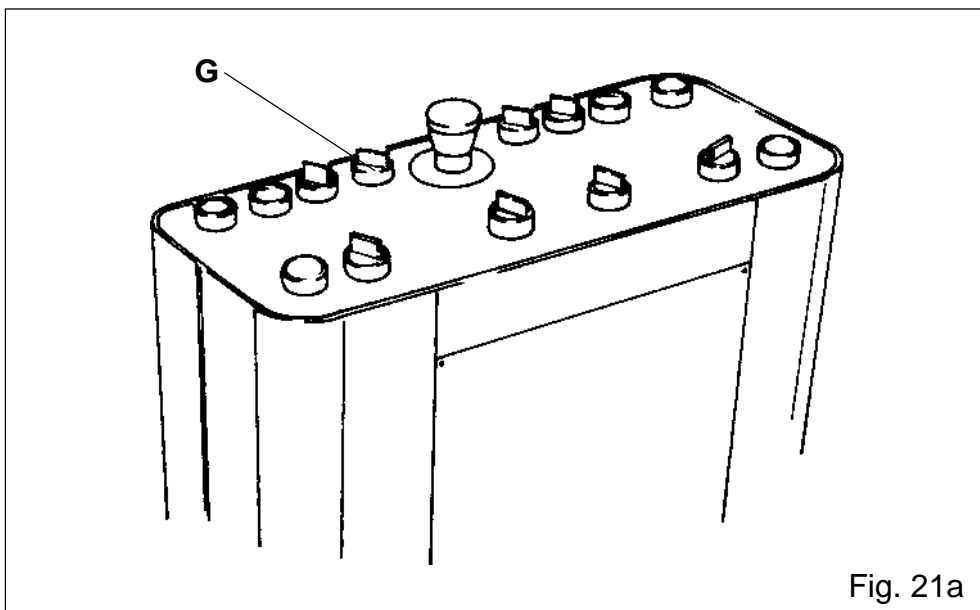

Fig. 21a
- Turn selector G (fig.21a) on to lift it.
- Put the selector G (fig.21a) in its rest position.